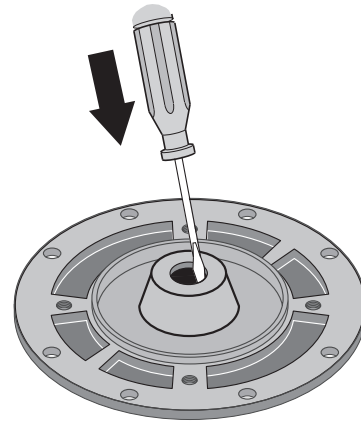

Figure 14: Tap Out Seal
4. Place the seal plate face down on a flat surface and tap out the stationary half of the seal (Figure 14).